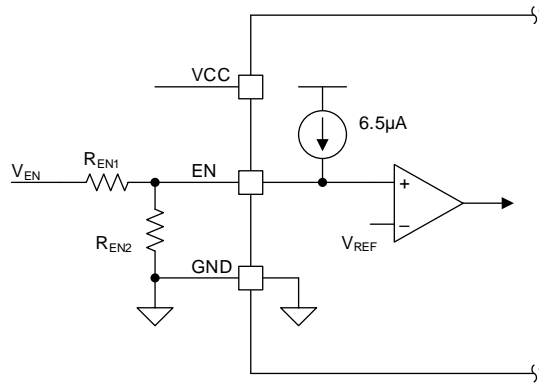

Figure 9 Using Resistor Divider at EN
When using the resistor divider at the EN pin (Figure 9), the resistor divider can be calculated by Equation (2):